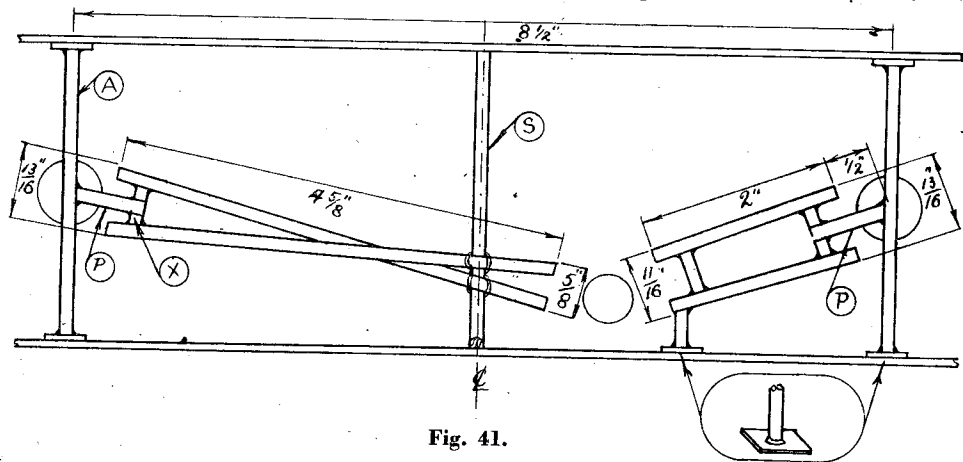
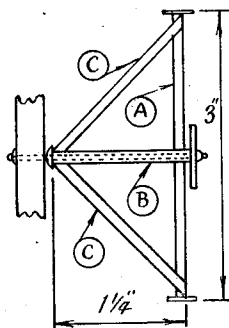

Fig. 41.
Fig. 42.
A very good idea of the transmission arrangement and the propeller mountings may be gathered from the photograph, which shows the rear of the model biplane, while Fig. 41 gives the necessary constructional details. The whole structure is made from 14 S.W.G. brass tubing. As a start, the propeller brackets, as shown in Fig. 42, should be constructed. Taking a piece of tubing, cut it to the length of (A), shown as 3 in. in the diagram. It will be as well to check that this measurement is correct for
your replica, as the tubes have to be a wedge fit between the rear spars of the wings, as may be noticed in the photograph. To the side of this tube, solder the bearing tube (B); then add the two tubes (C) (C). It will be seen that these are soldered to the side of the upright (A), but are chamfered off and soldered flush with the outer end of the tube (B). Small feet, cut from a piece of tin, are then soldered to the ends of the tube (A), in the manner shown in the small, encircled drawing at the bottom of Fig. 41.
of 14 G. steel wire, to one end of which is sweated the gear-wheels of  $\frac{1}{8}$ -in. in diameter. They are then pushed through the tube (B) (Fig. 42), a collet washer threaded on, then the propeller, and the whole secured by soldering a collet washer to the end of the shaft. It will be advisable to solder the